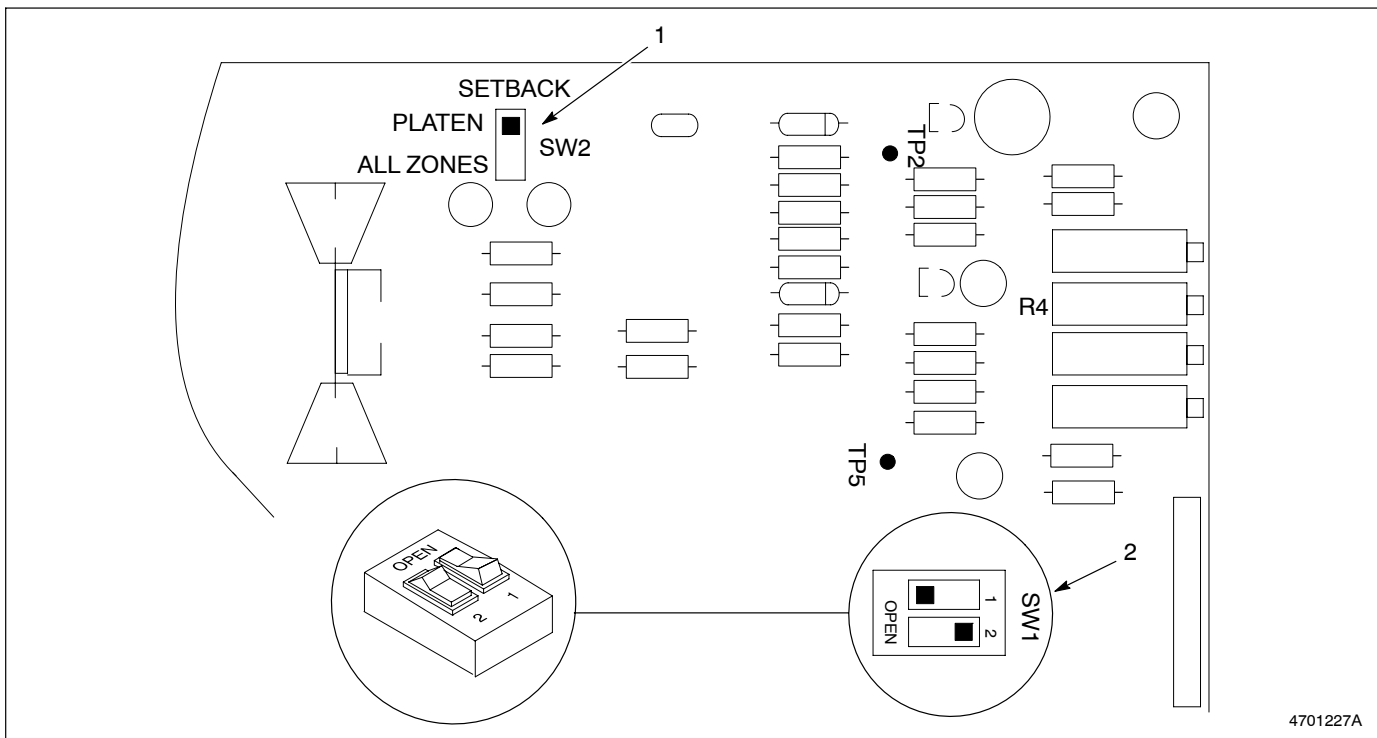

Fig. 2-4 LCU Circuit Board Detail
See Figure 2-4. An optional temperature SETBACK switch (1) and platen heater control dip switch (2) are located on the LCU circuit board.